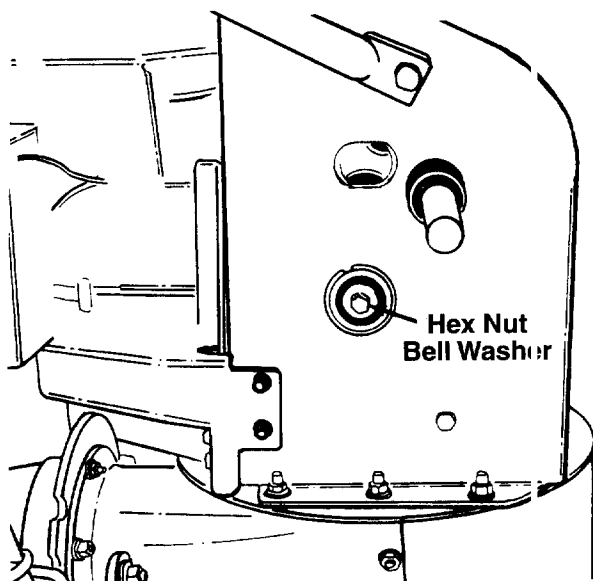

FIGURE 22.
5. Using a 7/8" wrench to hold the shaft, loosen, but do not completely remove, the hex nut and bell washer on the left end of gear shaft. See figure 22.